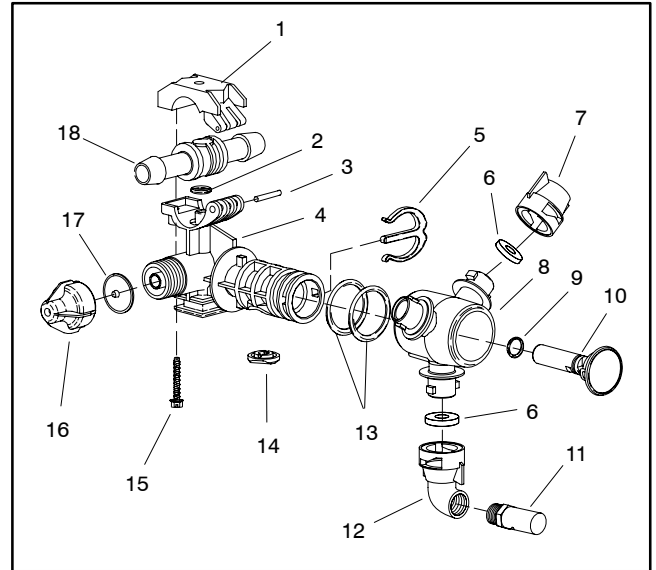

Figure 42
Disassembly (Fig. 42)
2. Disassemble turret body using Figure 42 as a guide.
Assembly (Fig. 42)
2. Assemble turret body using Figure 42 as a guide.